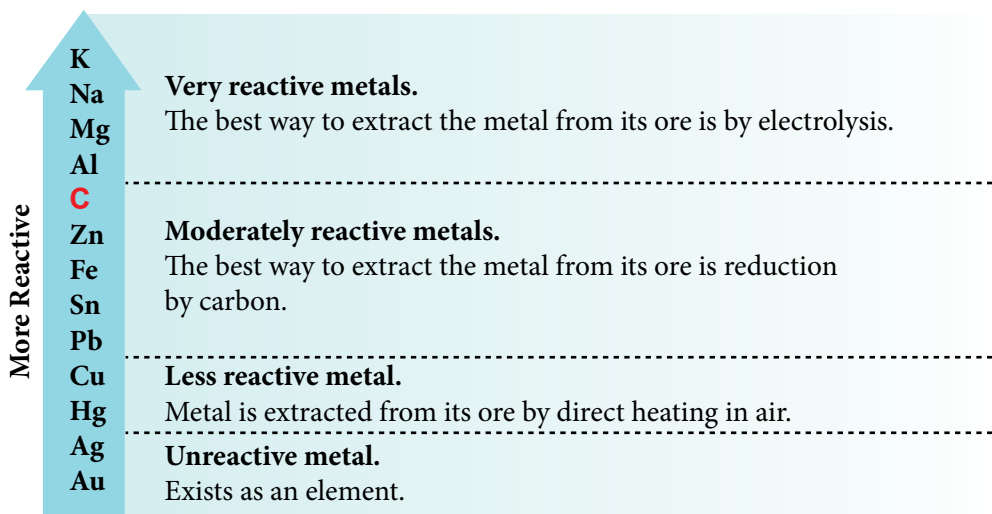

Figure 1.39 Reactivity series of metal
- Metal extraction methods are different, depending on the reactivity of the metals to be extracted. Figure 1.39 shows how the reactivity series of metals that can help us in determining the best way to extract the metal from its ore.